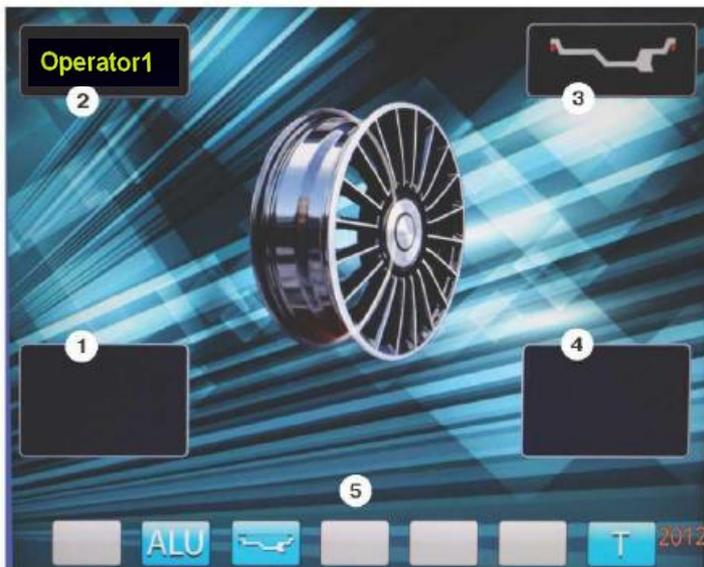
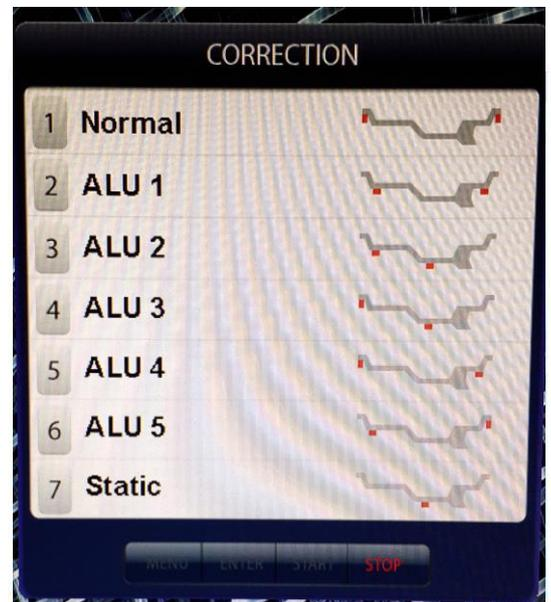

fig. 8.2
fig. 11.3
8.3. After the WB has been powered up, the monitor displays brand-name startup screen, which changes to the main operational mode screen in a few seconds. (fig. 8.2).
To select a weight positioning scheme in the programs «ALU1-ALU5» you will need to press the button «ALU» on main operating mode screen. It will open the window for weight positioning schemes marked with numbers (fig. 11.3). If, after the entering of the wheel size you see the parameters screen, you have to switch to the main operating mode screen using the button «STOP». To select the required scheme, press the top row button on the keyboard with the corresponding number. Selected weight positioning scheme will appear in the window 3 of the main operating mode screen (fig. 8.2).
12.2. The program for measuring of the unbalance is set not to count the unbalance of less than 5 gr in any correction plane (factory default). In this case, the windows 1 and 4 show the message «OK» (fig. 8.2). Minimum unbalance to be shown in the windows 1 and 4 is 5 gr. Unbalance greater than 5 gr will be rounded off to the nearest multiple of 5 gr, i.e. the unbalance values of 9, 10, 11 and 12 gr will be shown as 10, the unbalance values 13, 14, 15, 16 and 17 gr - as 15 and so on. To view the unrounded value or the value under 8 gr, press the button «<<». This will display the actual unbalance values for this cycle in windows 1 and 4 for 2-3 seconds.
12.3.4. To check the balancing results start the WB again. If the wheel is balanced correctly the indicators 1 and 4 will show the «OK» messages (fig. 8.2.).